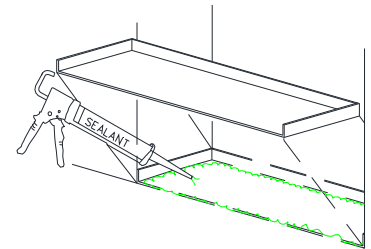

Figure 14:
4. Secure the sillpan to the floor with glue. Position sillpan as necessary to allow for proper installation of frame assembly (Figure 14).